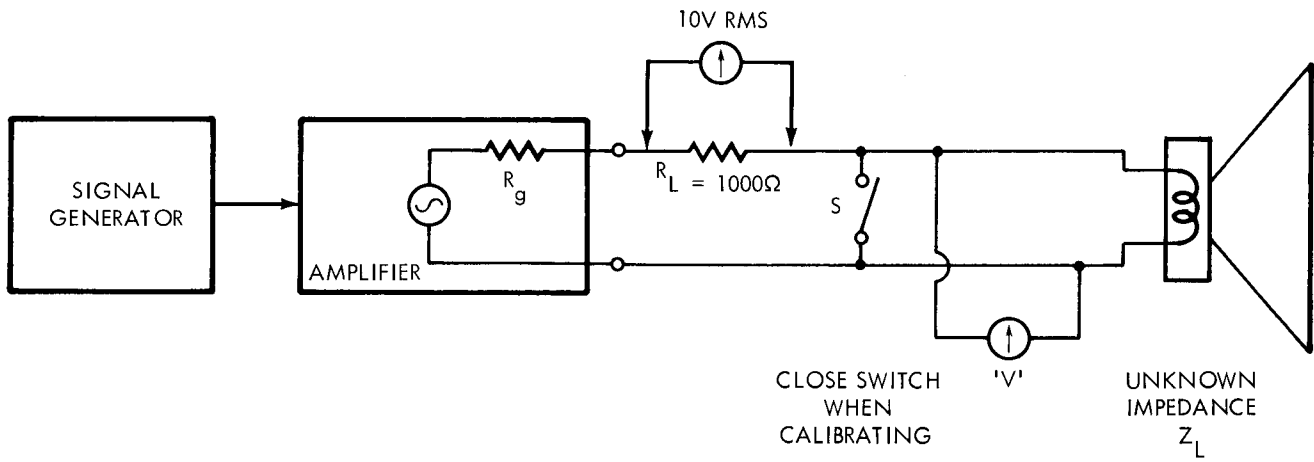
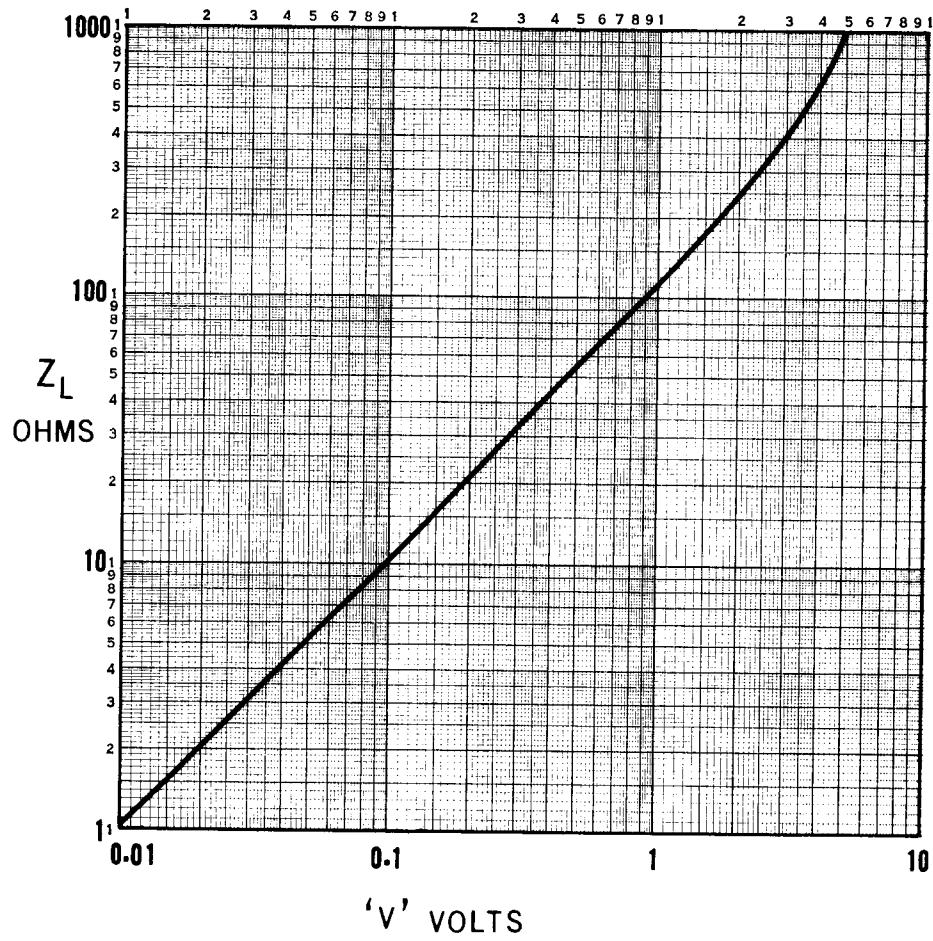

Figure 1
Figure 2
According to Ohm's Law, if a load is driven by a constant current, the voltage across the load is proportional to the load impedance. In Figure 1, an approximate constant-current source is obtained by placing a 1000-ohm resistor (R_L) in series with the amplifier and the speaker load (Z_L). A switch (S) is used to short circuit Z_L while the amplifier output is calibrated to produce a 10-volt drop across R_L . The internal source resistance (R_g) of the amplifier is quite low, so the terminal voltage of the amplifier will not vary appreciably over the impedance range being measured. With the switch open, the current will flow through the speaker load and vary slightly, but rather than monitor the current to maintain a constant level, Figure 2 may be used to derive Z_L .